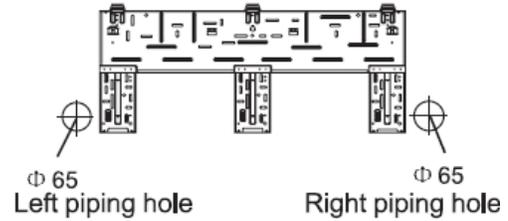

Fig.1
1. Make the piping hole ($\Phi 65$) in the wall at a slight downward slant to the outdoor side. (Shown in Fig.1)